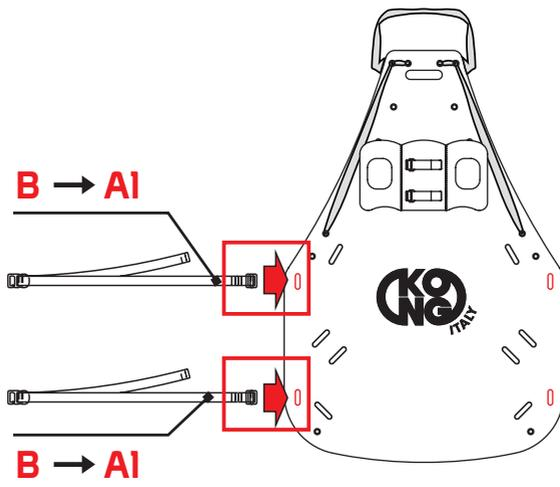

Fig.10
- Insert the slings (B) in the A1 eyelets in the support surface (fig. 10).